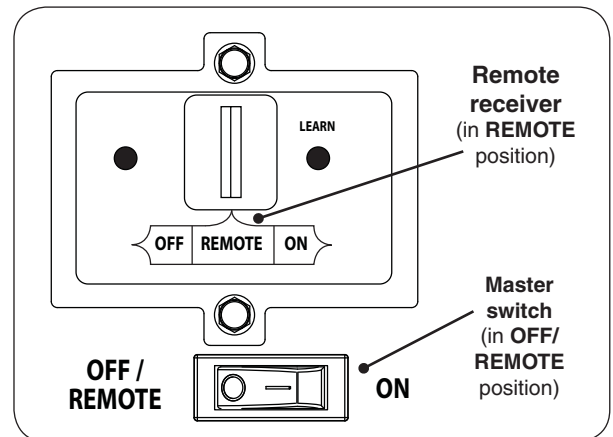

Fig. 27-1 Control panel detail
1. Ensure the master switch is in the **OFF/REMOTE** position (see Fig. 27-1).
2. Locate the 3-position switch on the remote receiver (see Fig. 27-1), and slide the switch to the **REMOTE** position.